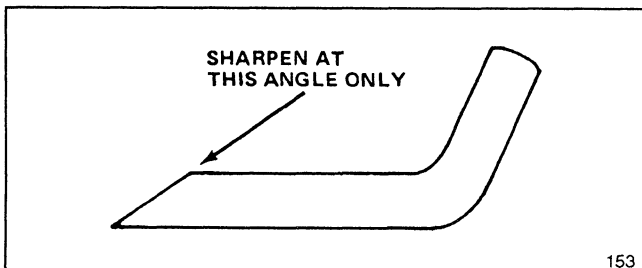

Figure 13
6. **SHARPENING BLADE**—Using a file, sharpen top side of blade and maintain original cutting angle (Fig. 13). The blade will remain balanced if same amount of material is removed from both cutting edges.